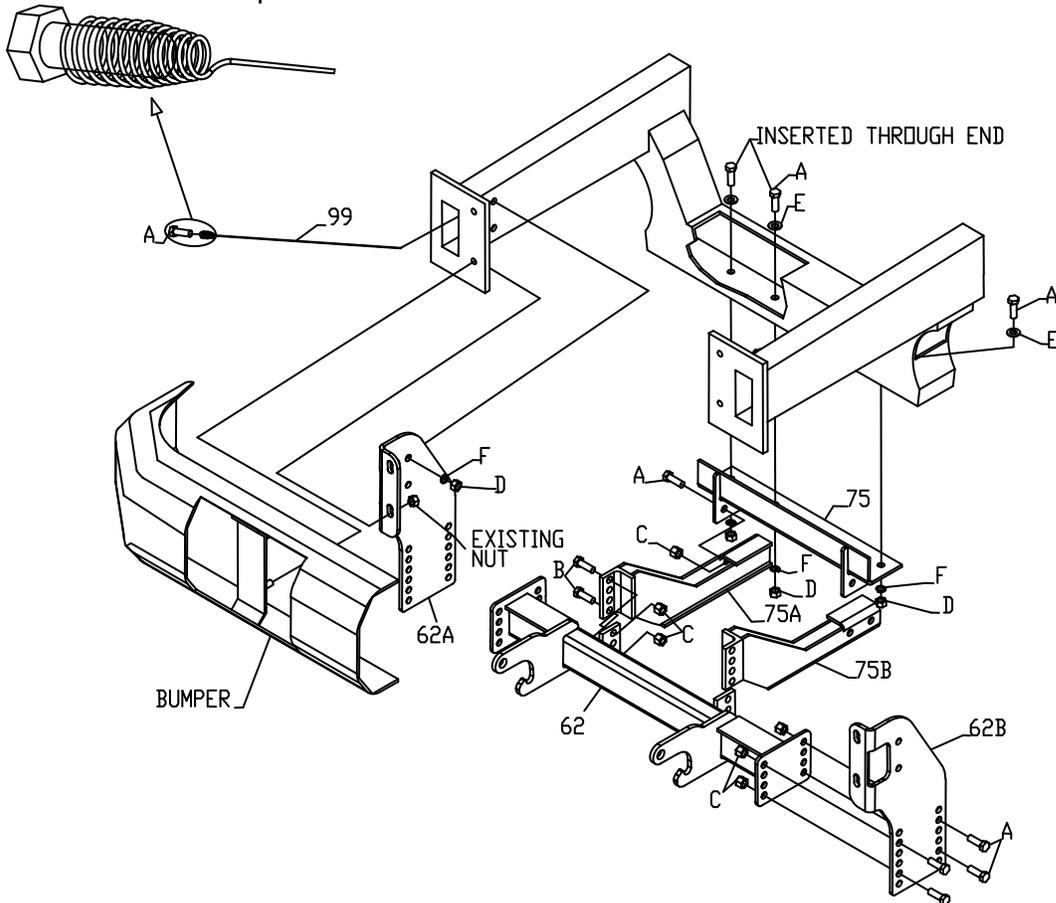
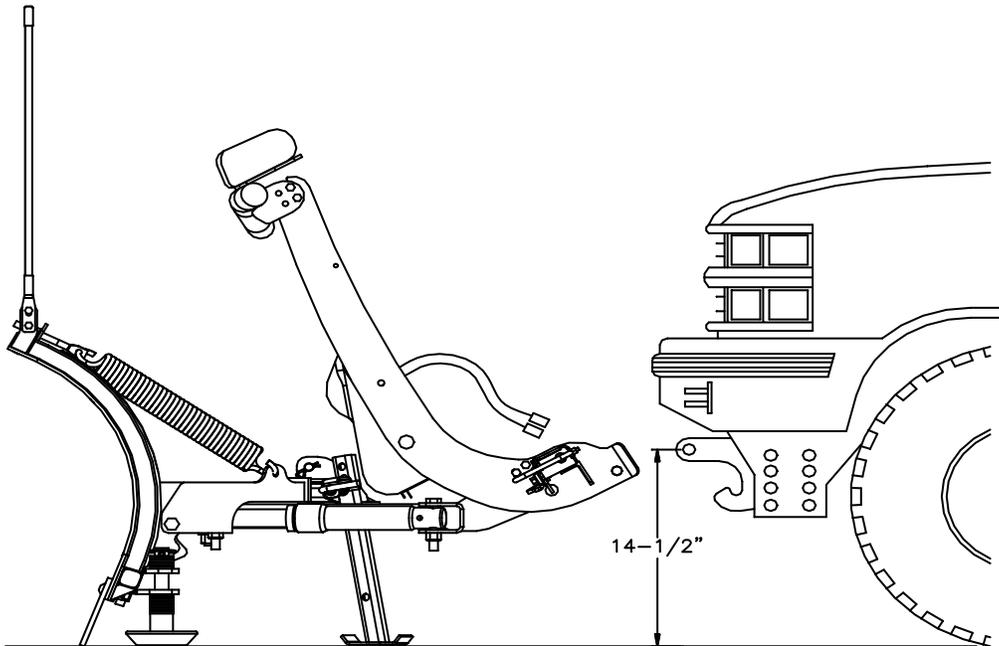

Figure 1
Figure 2
1. There are four nuts holding the bumper to the frame on each side. Remove the two inside nuts on each frame horn (see FIG 1). Attach Push Beam Support Plates (62A & 62B) in place temporarily. Align the vertical slots on the Push Beam Support Plates (62A & 62B) with the slots on the frame horn. (THIS MUST BE DONE SO THE BUMPER CAN BE ADJUSTED). With the slots aligned mark the vertical holes on the frame rail remove and drill two 9/16" holes per side.
3. Thread four ½"-13 x 1-1/2" GR5 Hex Head Bolts (A) into four ½" Bolt Pullers (99). Insert through the end of the frame into the vertical holes in the frame rails, leaving the Bolt Pullers (99) attached.
5. Remove Bolt Pullers (99) carefully (SAVE FOR LATER) install Push Beam Support Plates (62A & 62B) with ½" Split Lock Washers (F) and ½"-13 Full Nuts (D), leaving them finger tight.
6. Attach Angle Brackets (75A & 75B) to Skid Plate Attachment (75) with ½"-13 x 1-1/2" GR 5 Hex Head Bolts (A) and ½"-13 Nylon Lock Nuts (C). They must go to the inside of the tabs on Skid Plate Attachment (75).
7. Assemble ½" Bolt Pullers (99) with three ½" -13 x 1-1/2" GR 5 Hex Head Bolts (A) and three ½" Flat Washers (E). Insert them through the end of the cross member and into the outside holes and the hole that is off center in the cross member.
8. Place the assembled Skid Plate Attachment (75) with Angle Brackets (75A & 75B) on the bottom of the cross member. Remove the Bolt Pullers (99) and attach with ½" Split Lock Washers (F) and ½"-13 Full Nuts (D). Leave finger tight.
9. Bolt Push Beam Assembly (62) onto Push Beam Support Plates (62A & 62B) using ½"-13 x 1-1/2" GR 5 Hex Head Bolt (A) bolts and ½"-13 Nylon Lock Nut (C). Leave finger tight.
- NOTE: The proper Push Beam Assembly height is 14-1/2" from the ground to the center of the pin receiving holes on the Push Beam hooks. (See Figure 2)
10. Bolt Angle Brackets (75A & 75B) to the tabs on the back of Push Beam Assembly (62) using ½"-13 x 1-1/2" GR 8 Hex Head Bolt (B) (check the marks on the top to be sure they are GR 8 bolts) and ½"-13 Nylon Lock Nuts (C).